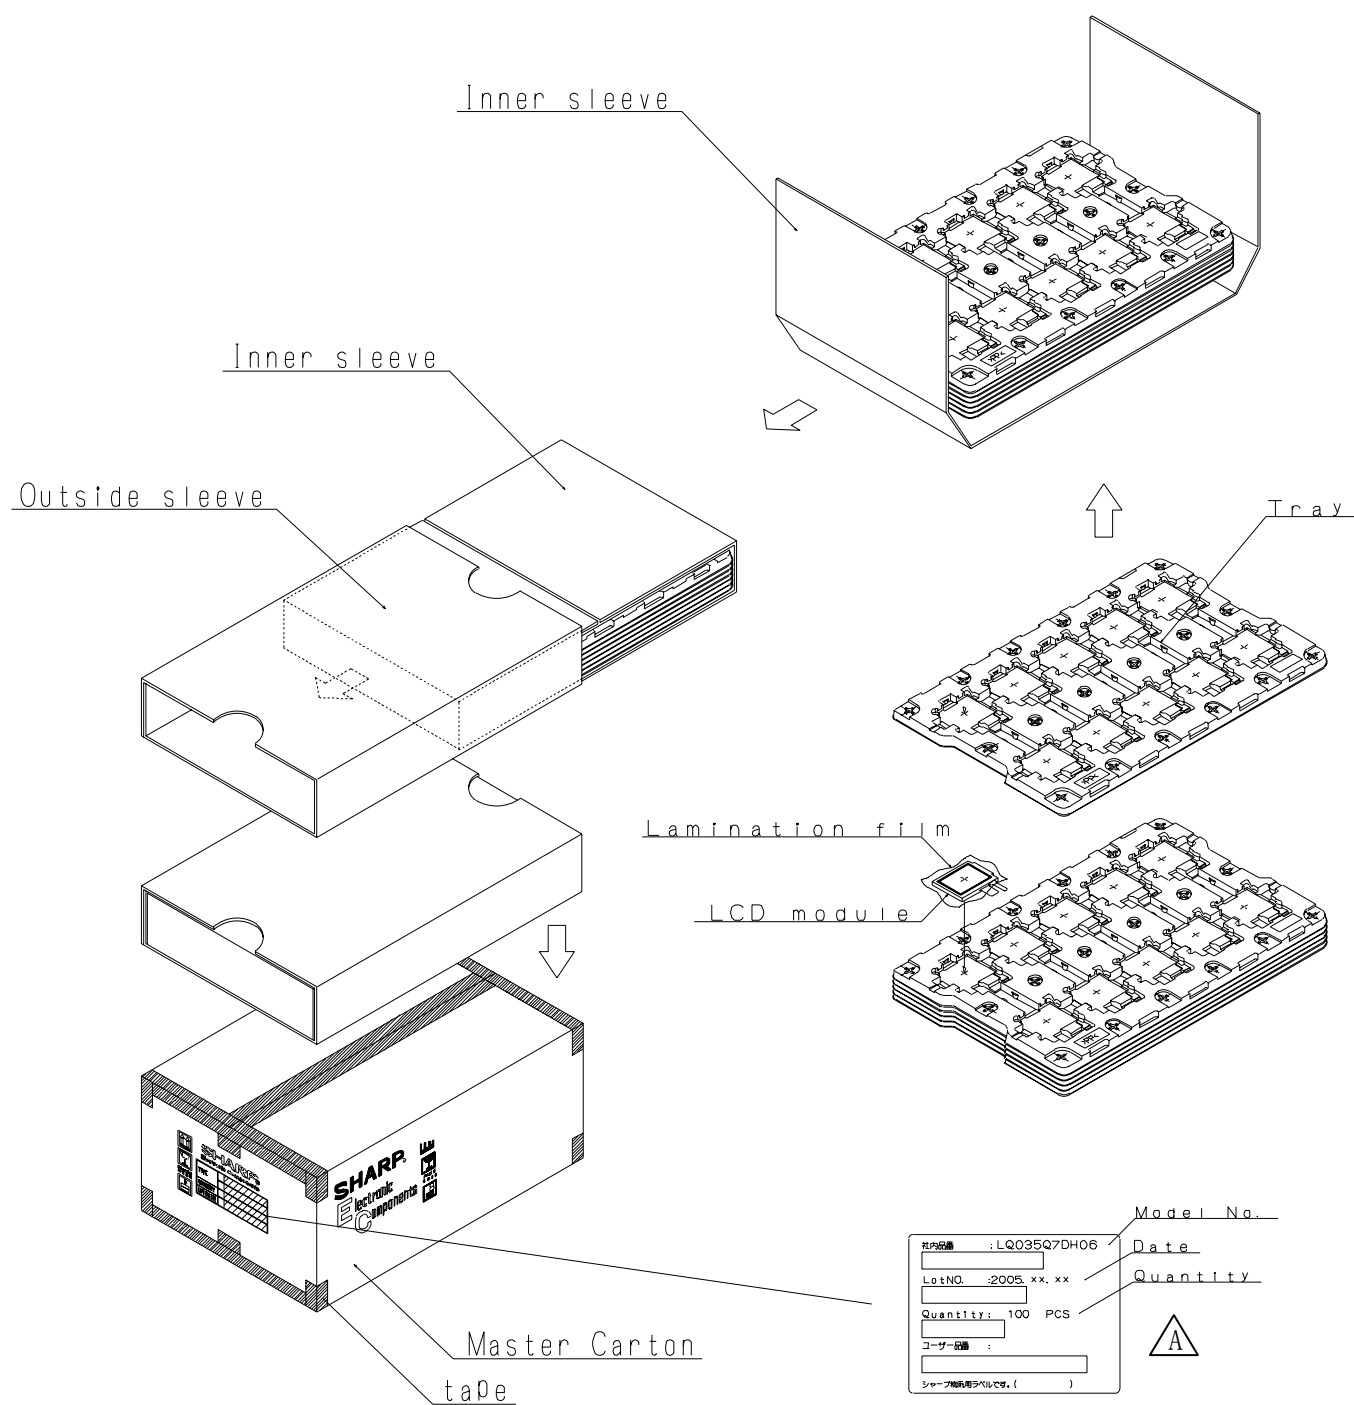

Fig. 3 Forwarding form
(16) Forwarding form(see Fig.3 Package Form)
- (17) Piling number of cartons: Max 8
- (18) Package quantity in one cartons: 100pcs
- (19) Carton size: 575mm × 332mm × 209mm
- (20) Total mass of 1 carton filled with full modules: 8000g